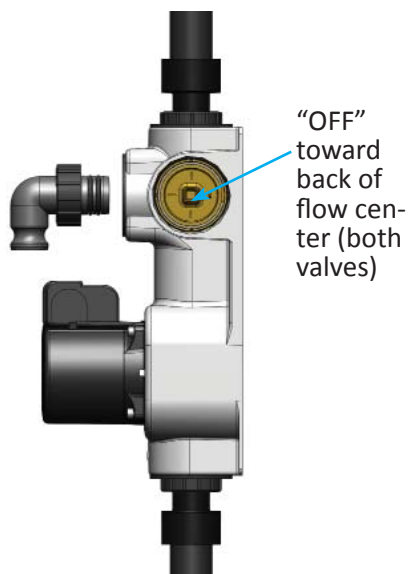

Figure 14: Flow-Link™ Double O-ring flow center valve positions to allow flow to both the ground loop and the heat pump
9. Open 1/2" fill valve (Figure 8) and allow the loop to fill. Watch the fluid level in the tank via the sight tube. When the tank is nearly full, shut off the 1/2" fill valve and 1-1/2" supply valve (Figure 14).